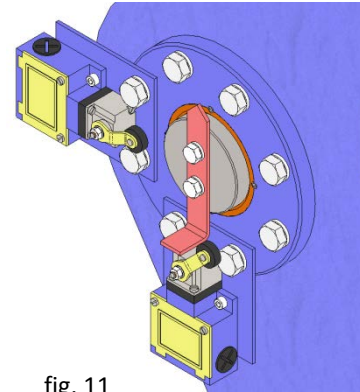

fig. 11
**Mechanical limit switches or inductive sensors (fig. 11):**